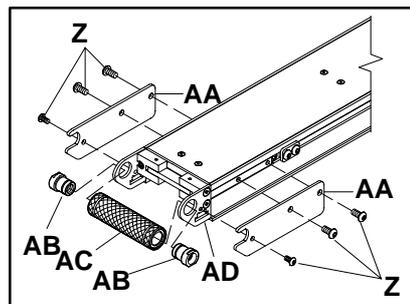

Figure 13
Remove the tail cover plate screws (Z of Figure 13) and tail cover plates (AA) on both sides of the conveyor.
Refer to Figure 13 and re-install pulleys as follows:
Insert pulley (AC of Figure 13) between the tail pulley plates (AD).
Secure the tail cover plates (AA of Figure 13) to the conveyor with tail cover plate screws (Z).